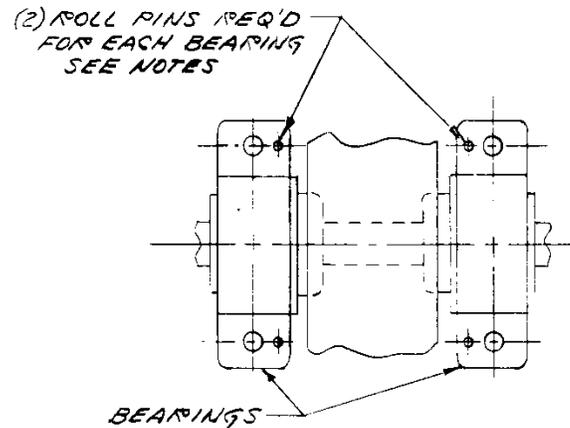

Figure 9
14. When proper alignment of the shaft and bearing assembly has been verified, drill and install two roll pins in each bearing mount as shown in Figure 9. DO NOT USE THE EXISTING ROLL PIN HOLES - make new ones.